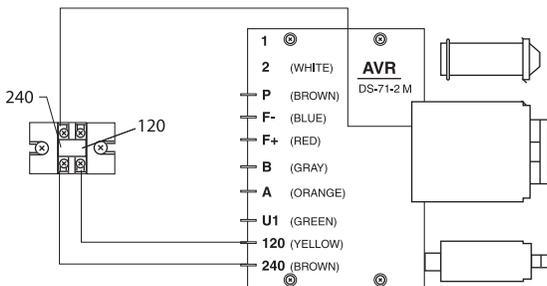

Figure 28: Control Terminal Board, 240 Volt Output
- a. 240 volt output can be selected by connecting the terminals of the control terminal board to 240 (Figure 28).